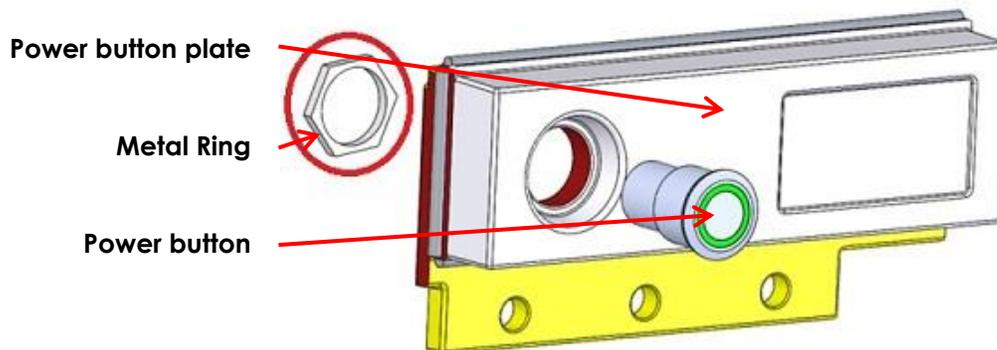

Figure 51: Metal Ring at the Back of the Power Button Plate
5. Rotate the metal ring at the back of the *power button plate* counter-clockwise (refer to Figure 51). Detach the *power button* by removing the metal ring.